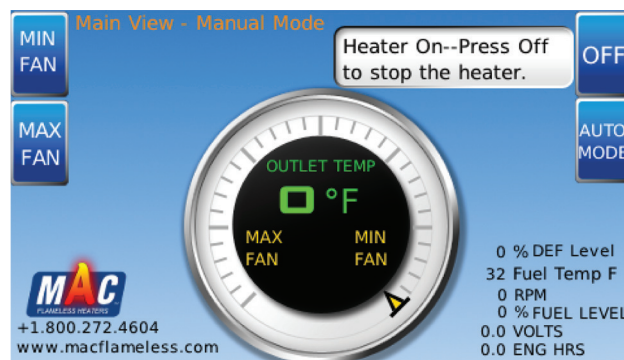

Figure 3-5. Heater On
6. When the heater is warm, heat begins blowing from ducts, green strobe light on top of unit activates and screen displays "Heater on--Press Off to stop the heater" (**Figure 3-5**).